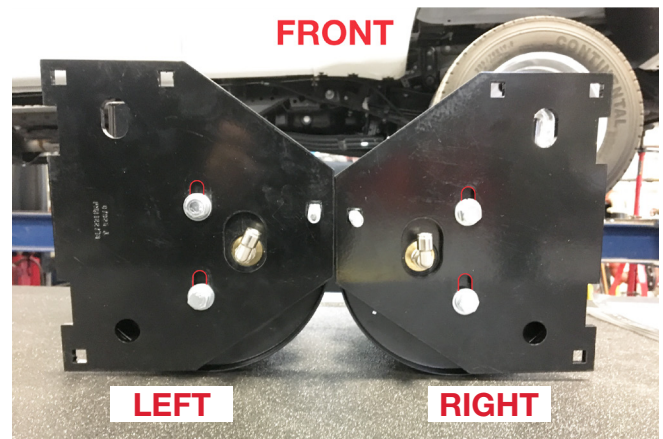

Fig. 8
- Insert 3/8"-16 x 1" carriage bolts (DD) into the square holes on the brackets, then secure the upper air spring bracket (E) onto the top of the air springs using 3/8"-24 x 7/8" hex bolts (W), 3/8" lock washers (X) and 3/8" flat washers (R). At this stage, the air spring assemblies are left- and right-hand units. Push the brackets as far forward as possible (Fig. 8). Torque the hardware to no more than 20 lb.-ft. (27Nm).